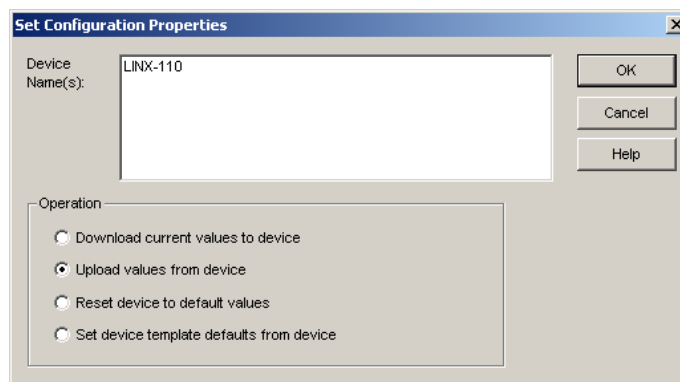

Figure 116: Set Configuration Properties in LonMaker TE.
2. This opens the dialog shown in Figure 116.